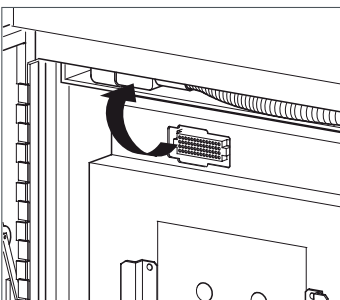

Fig. 4.7
- Stow low-voltage connector in storage tray above the truck (Fig. 4.7).
- Take low-voltage connector from the storage tray above the truck (Fig. 4.7).